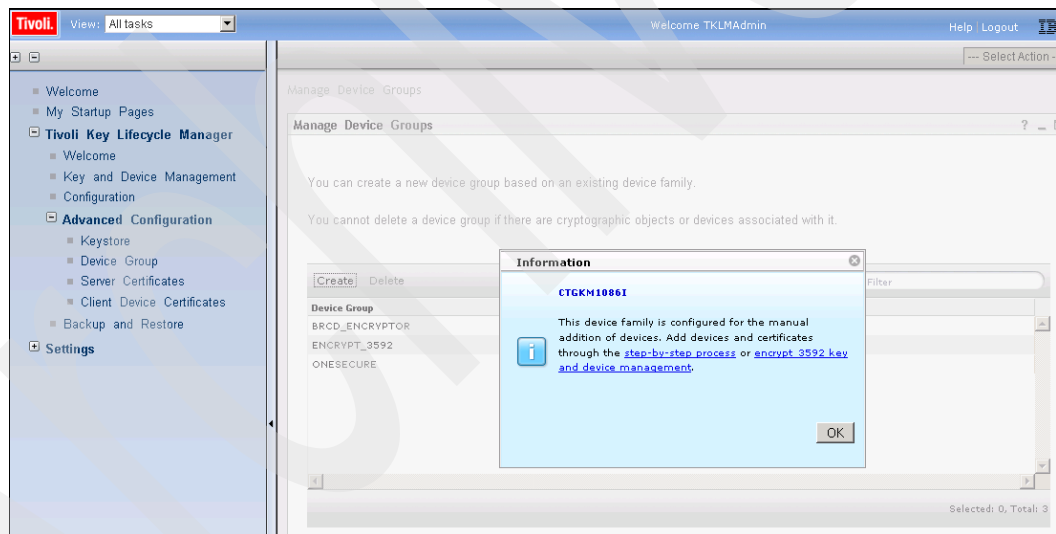

Figure 9-16 Success message
- If successful, the Information message shown in Figure 9-16 is displayed. Click **OK**.